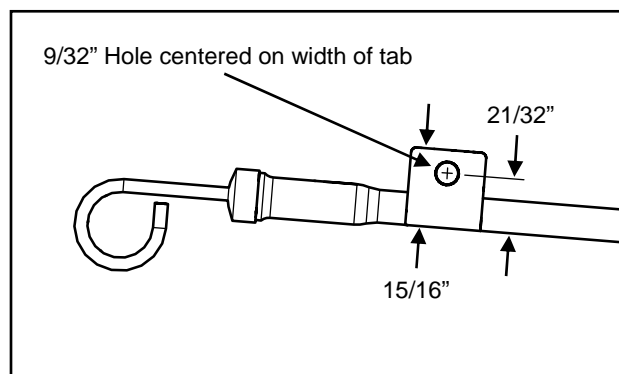

Fig. 1.20 (Dipstick Modification)
- 1.20** Modify dipstick tube mounting tab as shown per fig. 1.20.